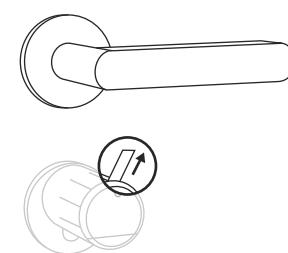

Fig. 7
- ⑦ If you have not already done so, remove the battery protection strip from the battery compartment on the inside knob (Fig. 7).